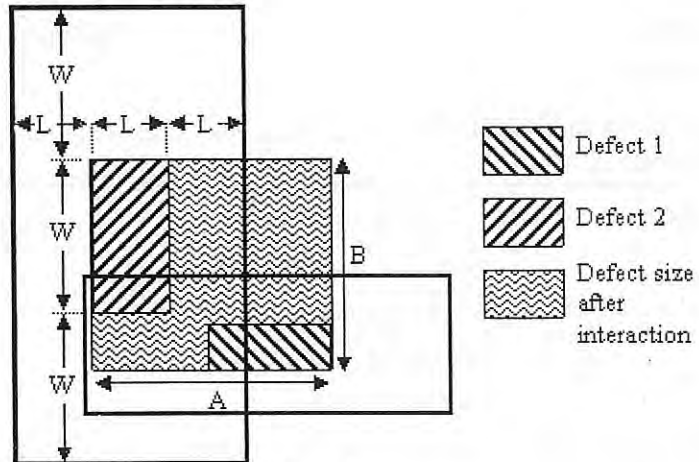

Figure 1
2. Draw a larger box around each defect, extending length and width as per Figure 1.
4. The dimensions reported on this form are the dimensions of the defect after interaction - dimensions A and B as shown in Figure 1.